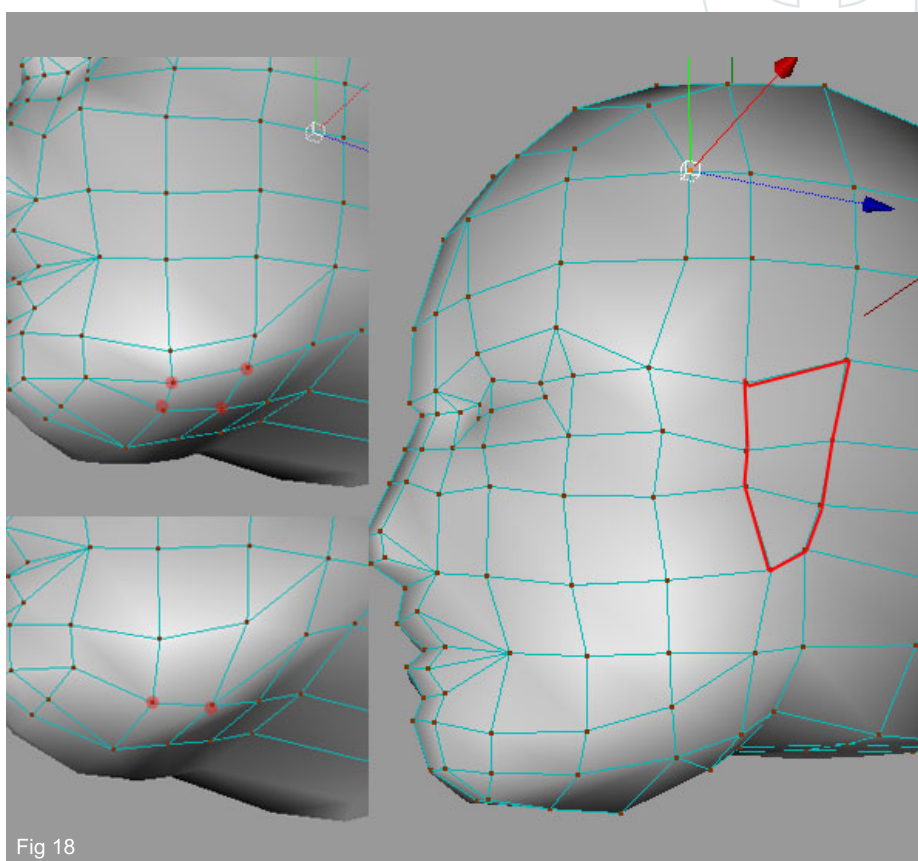

Fig 18
18. To economise further weld two more verts to the outside edge as shown by the red dots in Fig 18 (left). With this complete it is now time to create the ears so start by moving the verts into positions that resemble a rough shape as seen by the red outline.